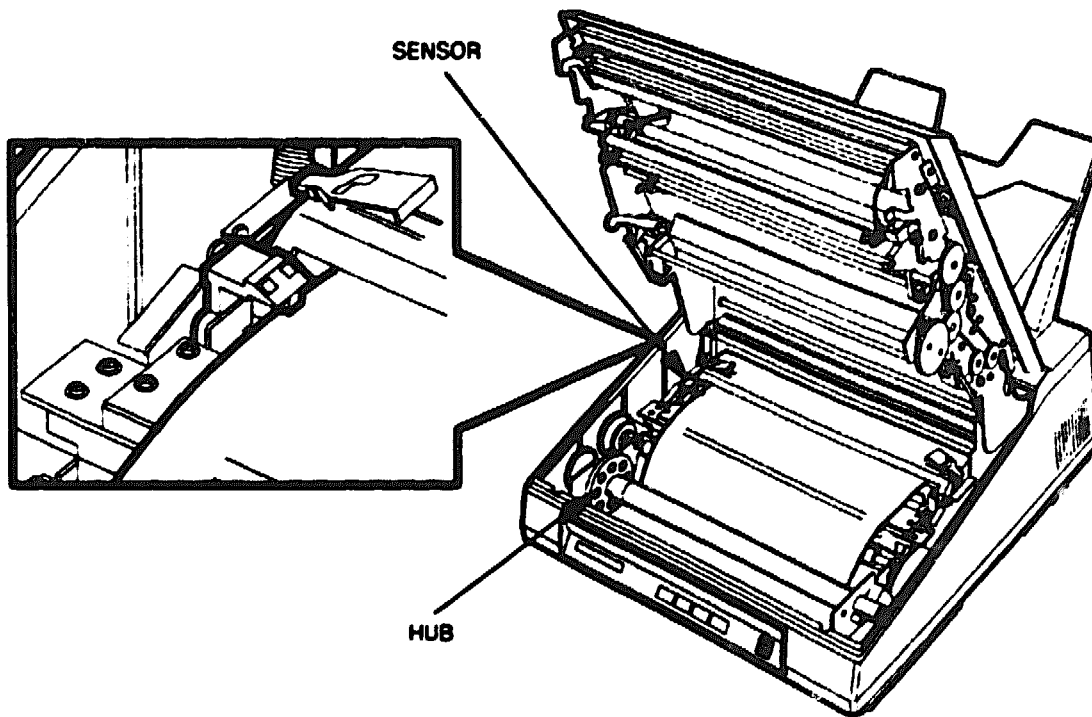

Figure 2-10 Ribbon Sensor and Hub
8. While making sure the left edge of the ribbon passes through the narrow channel in the ribbon end sensor (see Figure 2-10), turn the ribbon hub to remove slack in the ribbon.